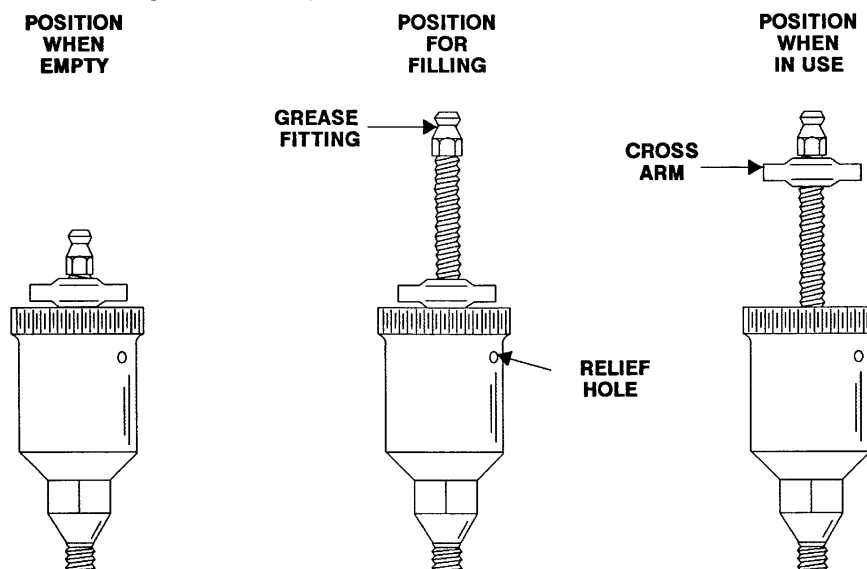

Figure 5. Automatic Lubricating Grease Cup
Fill the grease cup (59) through the grease fitting with No. 2 lithium base grease until grease escapes from the relief hole. Turn the grease cup arm counter-clockwise until it is at the top of the stem; this will release the spring to apply grease to the seal (see Figure 5).